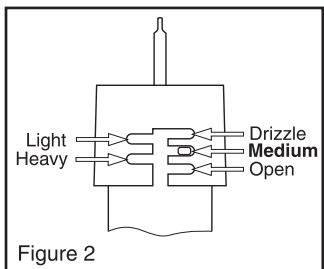

Figure 2
To adjust, carefully rotate the Rainfall Adjustment Cap so the pins are positioned in the desired slots as shown in Figure 2. Be sure to align the slots and pins properly, as this adjustment does not require excessive force.
2. Set the desired rainfall amount on the Rainfall Adjustment Cap (see Figure 2 above for more detail).